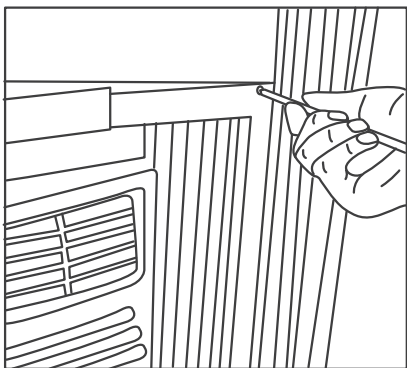
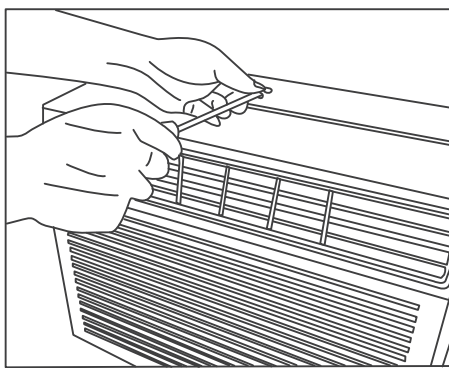

Fig.9
Fig.10
- 5 Drive 1/2" (12.7mm) locking screws through frame holes into window sash (Fig.9 Fig10)